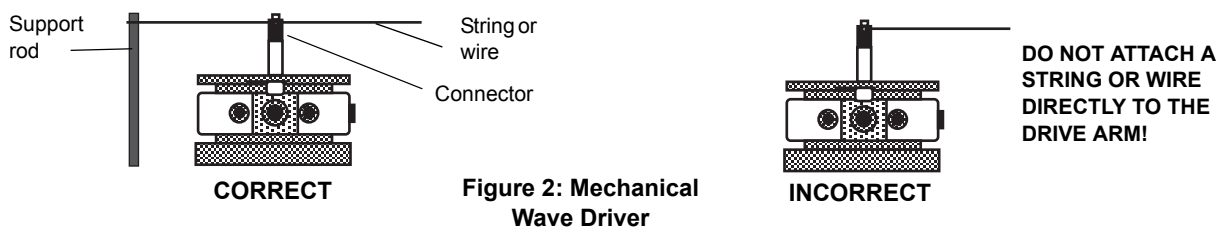

Figure 2: Mechanical Wave Driver
- **NOTE:** Avoid putting a sideways force on the drive arm. If you are driving a wire or string that has tension, attach the end of the wire or string to a support rod as shown in Figure 2..